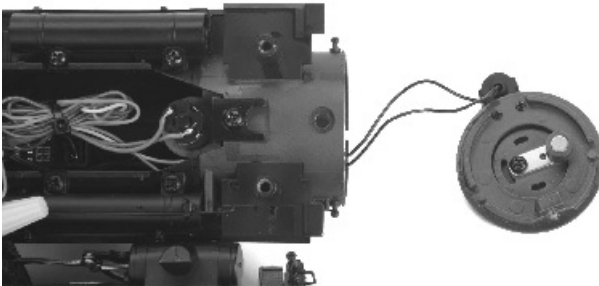

Figure 15
4. Once the unit is freed, remove the inspection cover (Fig. 15). Inspect the wick; if it is darkly discolored and hard, it should be replaced.